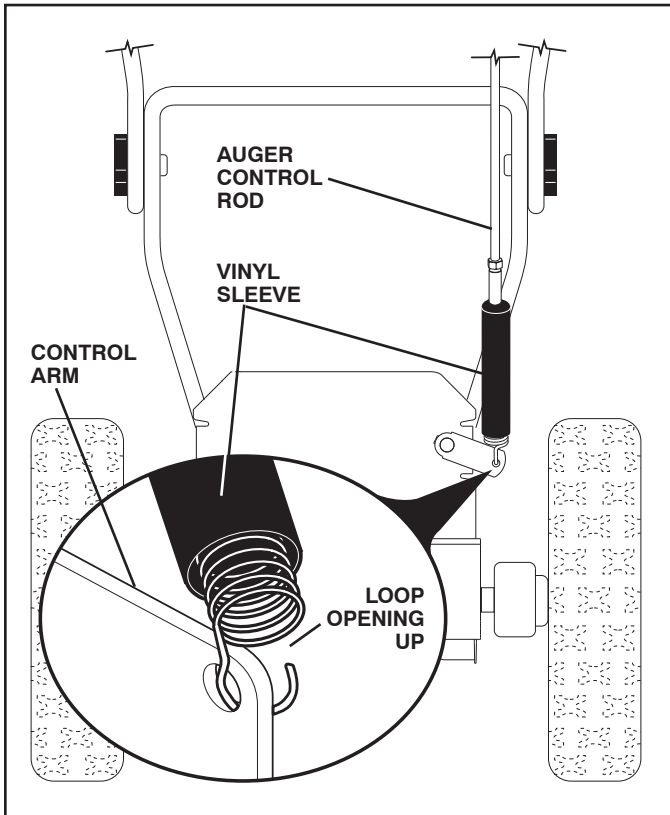

Fig. 5
## INSTALL AUGER CONTROL ROD (See Figs. 5 and 6)
2. Hook end of spring into control arm with loop opening up as shown. (See Fig. 5)